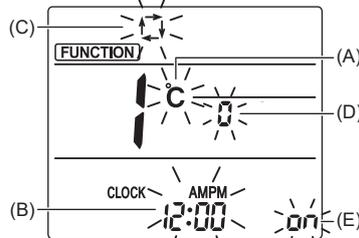

Fig. 5-8
The Screen display setting screen will be displayed. (Fig. 5-8)
#### 5.9.2. Changing the temperature unit (Fig. 5-8 (A))
#### 5.9.3. Changing the time display (Fig. 5-8 (B))
#### 5.9.4. Changing the AUTO mode (Fig. 5-8 (C))
#### 5.9.5. Changing the pair No. (Fig. 5-8 (D))